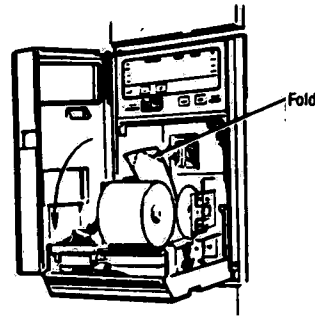

Figure 7-25A. FOLD PAPER TAPE (Units After 6/85).
5. Grasp end of tape, fold two corners to form a V and fully insert end into slot of paper take-up spool (Fig. 7-25A).